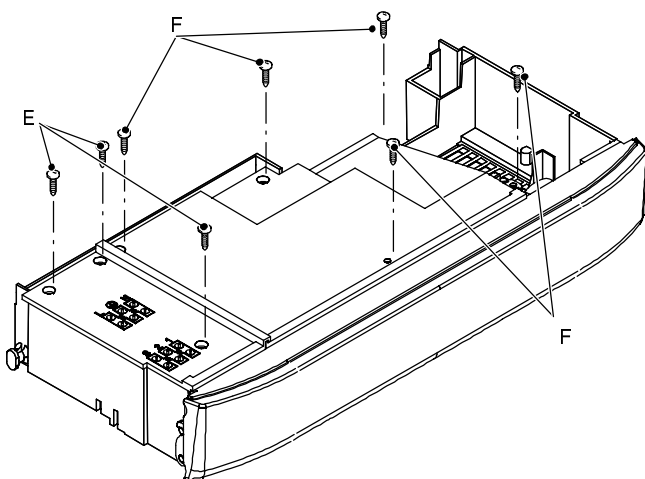

Fig. 5
- 5 Remove the screws *E* and remove the service panel (Fig. 5);
- 6 To gain access to the electronic regulation PCB and the full sequence ignition device remove the screws *F* and remove the control panel lid (Fig. 5);